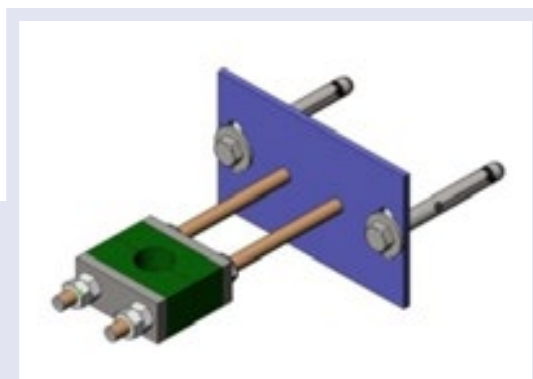

Fig.13
- We recommend a stem support-guide every 1.5 m (fig. 13).
- We recommend a pipe support-guide every 1.5 m (fig. 13).